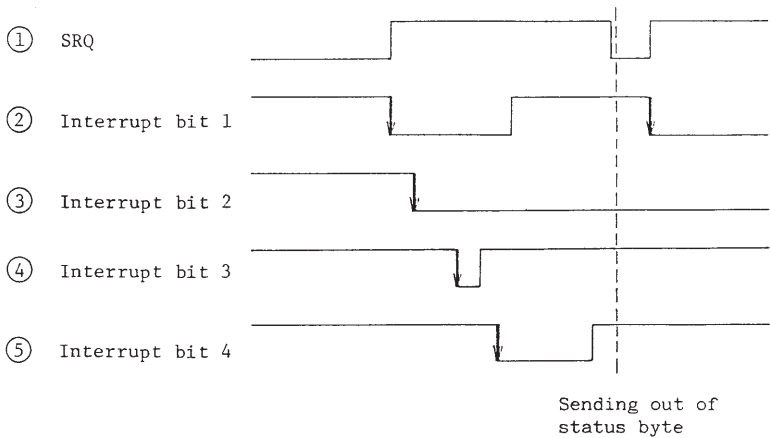

Figure 3-28
An SRQ signal is generated as a logical sum signal (OR signal) of the service request signals of the DPO2212A. Also, a status byte signal is sent onto the GP-IB bus in response to serial poll. The signals are of the negative logic (the L level is for true) and an SRQ signal is generated at the fall down edge of the signal from H level to the L level. Timing of interruption is shown in Figure 3-28.
- o In the case of the example shown in Figure 3-28, the status byte is as shown in Figure 3-30.